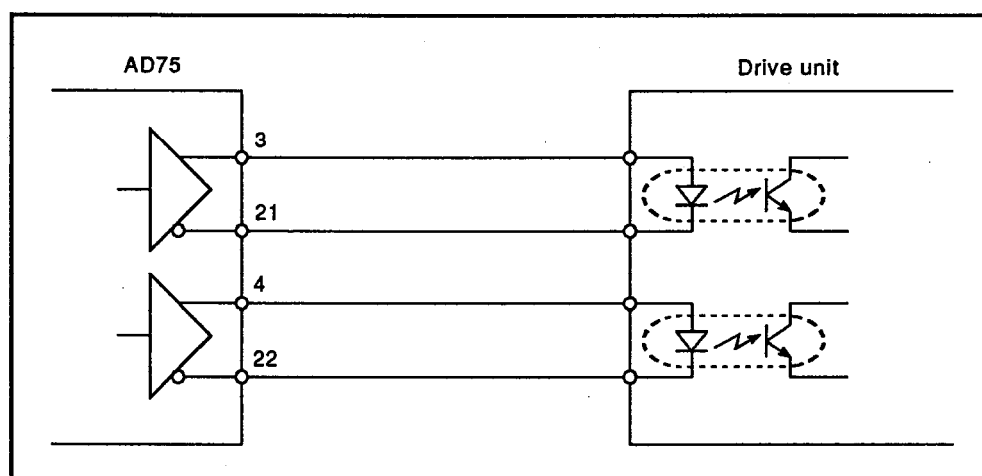

Fig. 5.1 Example Connection Using AD75 Differential Driver
- (1) Generally, the command pulse input section of the drive unit (servo amplifier, stepping motor driver) is open collector input with isolation by photocoupler. Connection to a drive unit with open collector input is explained here.
- (2) You are recommended to use the differential driver system for connection between the AD75 and drive unit in order to increase the noise margin. (See Figure 5.1.)
- (3) When the AD75 is connected to an MR-J/MRH servo amplifier (made by Mitsubishi), the logic can be changed by changing the servo amplifier parameter settings, which means that the normal wiring shown in Figures 5.1 and 5.2 can be used.